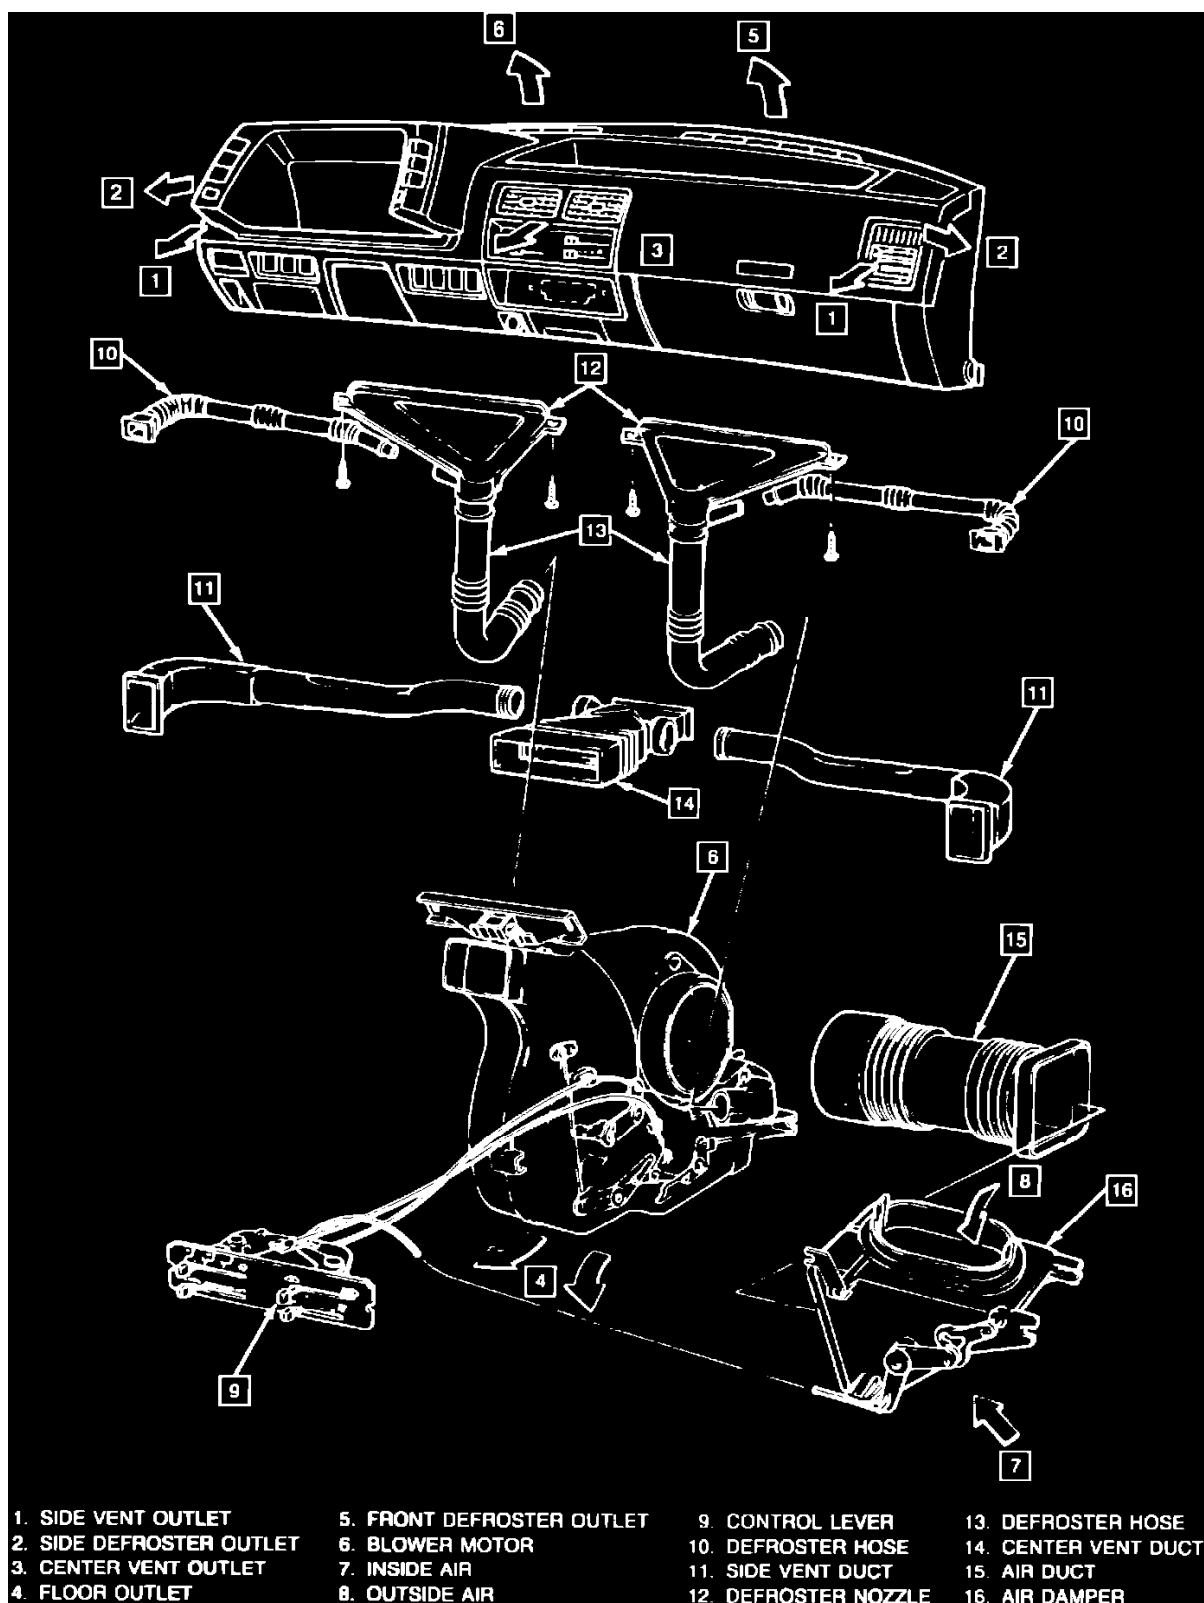

Fig. 8 Heater & defroster assembly
4. Disconnect defroster hoses from heater housing, **Fig. 8**.